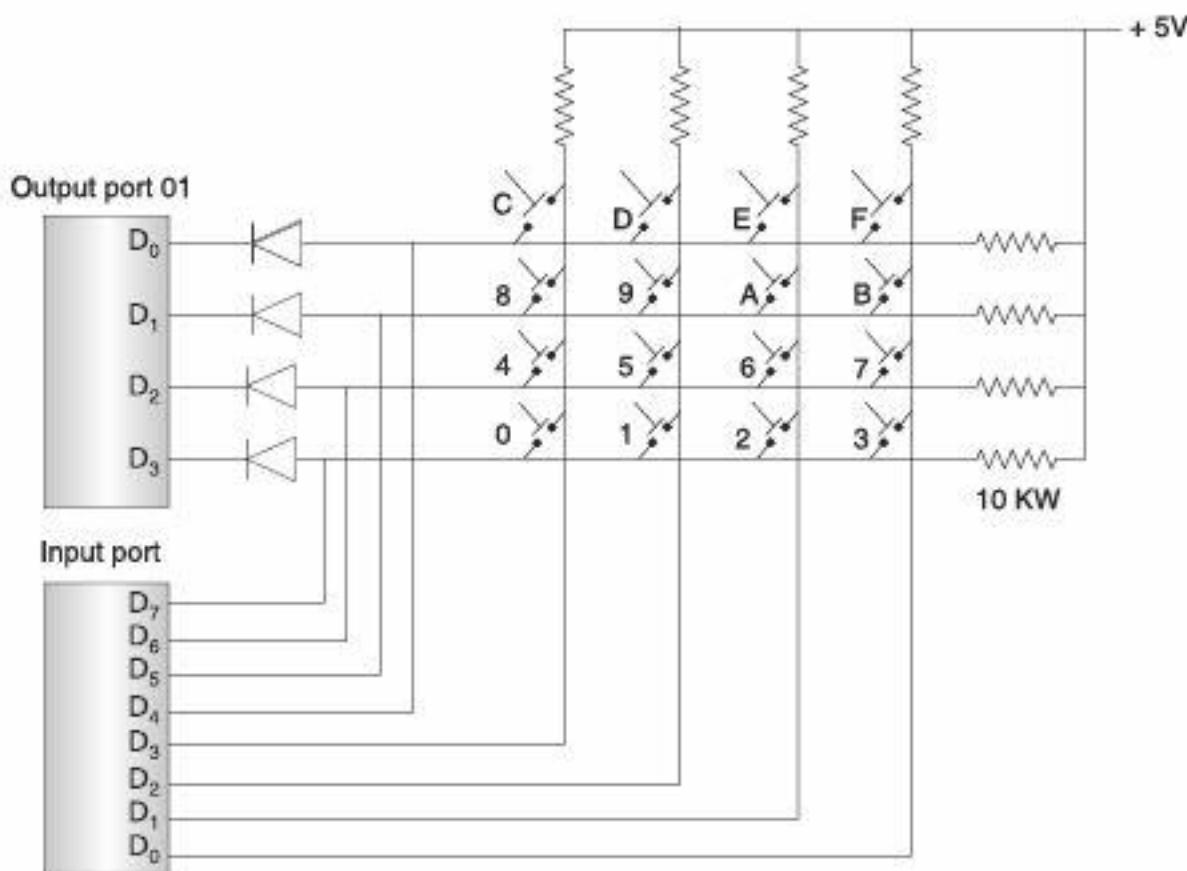

Fig. 5.25 Port Connections.
**Circuit Connection and Algorithm:** Figure 5.25 shows how a hexadecimal keypad can be connected to a couple of microcomputer ports so that the three interfacing tasks can be done as part of a
The connection in Figure 5.25 shows the byte read from the input port will contain a 4-bit code which represents the row of the pressed key and 4-bit code which represents the column of the pressed key.